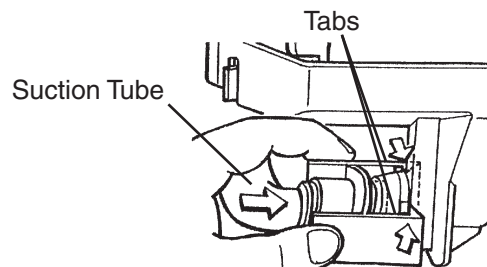

Fig. 32
- 8) Reconnect the suction tube as illustrated. See Fig. 32. Make sure the tabs lock into place; a loose fitting may cause a water leak.